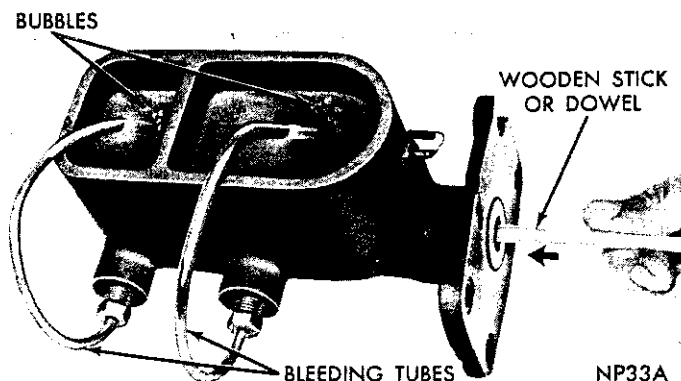

Fig. 7—Bleeding Master Cylinder
- (1) Clamp master cylinder in a vise and attach bleeding tubes Tool C-4029 (Fig. 7).
- (2) Fill both reservoirs with approved brake fluid.
- (3) Using a wooden stick or dowel (power brake equipped vehicles) depress push rod slowly. (Note air bubbles.) Allow pistons to return under pressure of springs. Do this several times or until bubbles cease to appear (Fig. 7).
- (4) Remove bleeding tubes from cylinder and install plug in rear outlet. (As tubes are removed, fluid remaining in tubes will syphon out.)